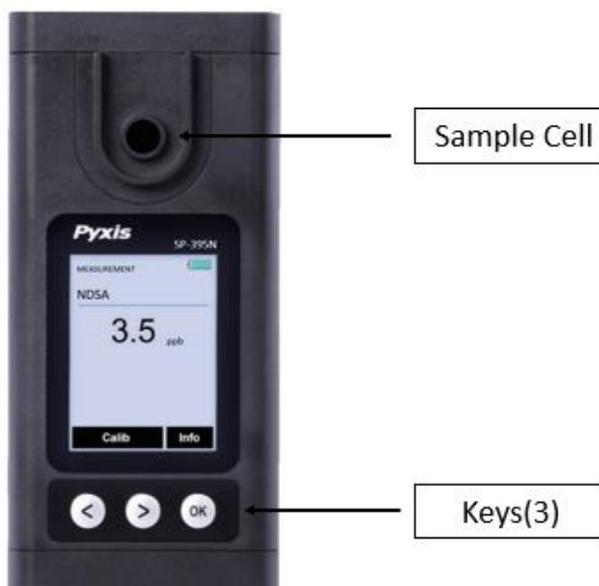

Figure 2.
The SP-395N has three control keys, as shown in Figure 2. The left (◀), right (▶), and ok (OK) keys are used to launch actions indicated on the LCD display directly above the keys. The labels above the keys indicate the function associated with each key and functions can be changed in different operation modes.